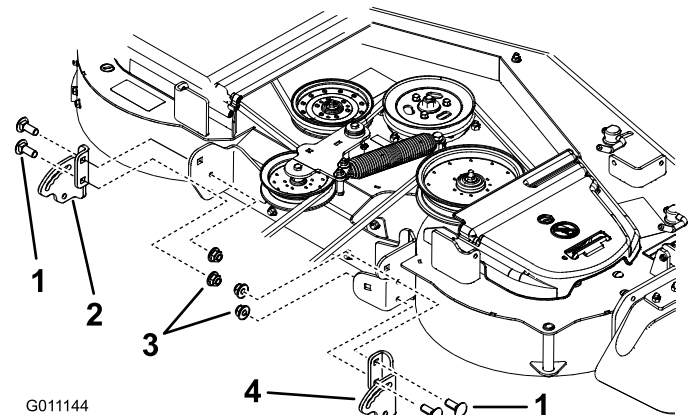

Figure 1
3. Install the right hand bracket to the rear of the mower deck with 2 carriage bolts (3/8 x 1 inch) and 2 flange nuts (3/8 inch) (Figure 1).
4. Install the left hand bracket to the rear of the mower deck with 2 carriage bolts (3/8 x 1 inch) and 2 flange nuts (3/8 inch) (Figure 1).